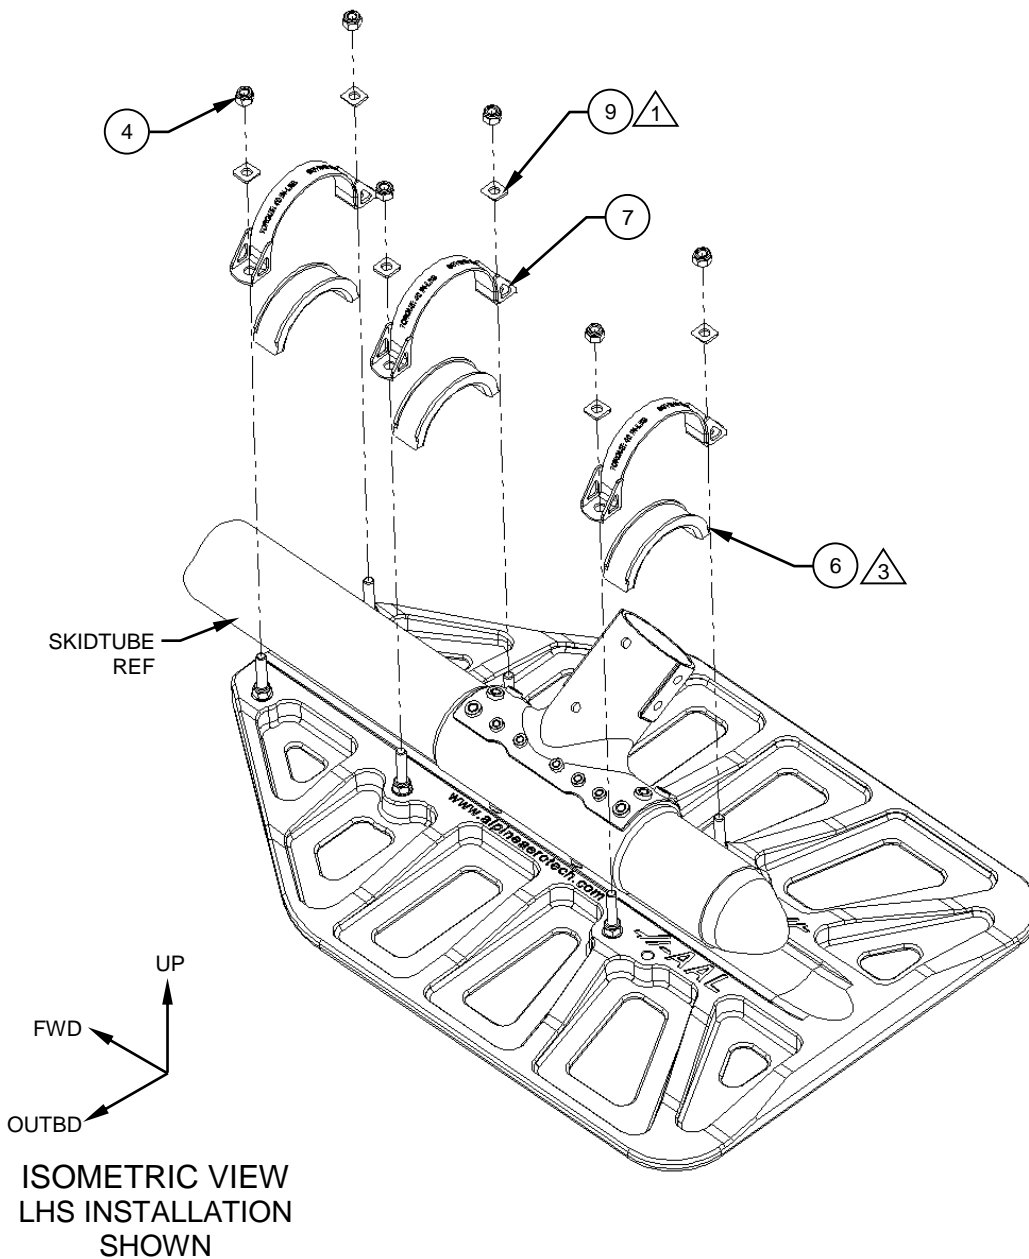

Figure 6
2. Place Cap, Details (Item 6) into Strap, Assys (Item 7) center the cap to the strap. Reference Figures 6 & 7.
4. Once the Bear Paw, Detail (Item 1) is under the skid tube in its approximate location, place the Strap, Assy's (Item 7) Cap, Details (Item 6) and associated hardware (Items 4 & 9) on their corresponding studs and capture the stud with its respective self-locking nut (Item 4) and washer (Item 9). Reference Figures 6 & 7.
5. Lower the aircraft onto the Bear Paw, Detail (Item 1) and torque fasteners equally to 40 in-lbs. Ensure that the relieved edge of the Washer, Radius (Item 9) is oriented towards the skid tube. Reference Figures 6 & 7.